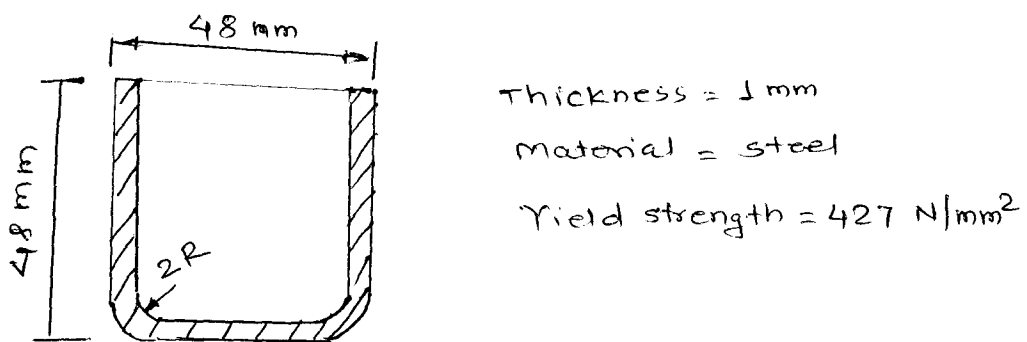

Figure 2.
- Design a deep drawing die for the component shown in Figure 2. [10]